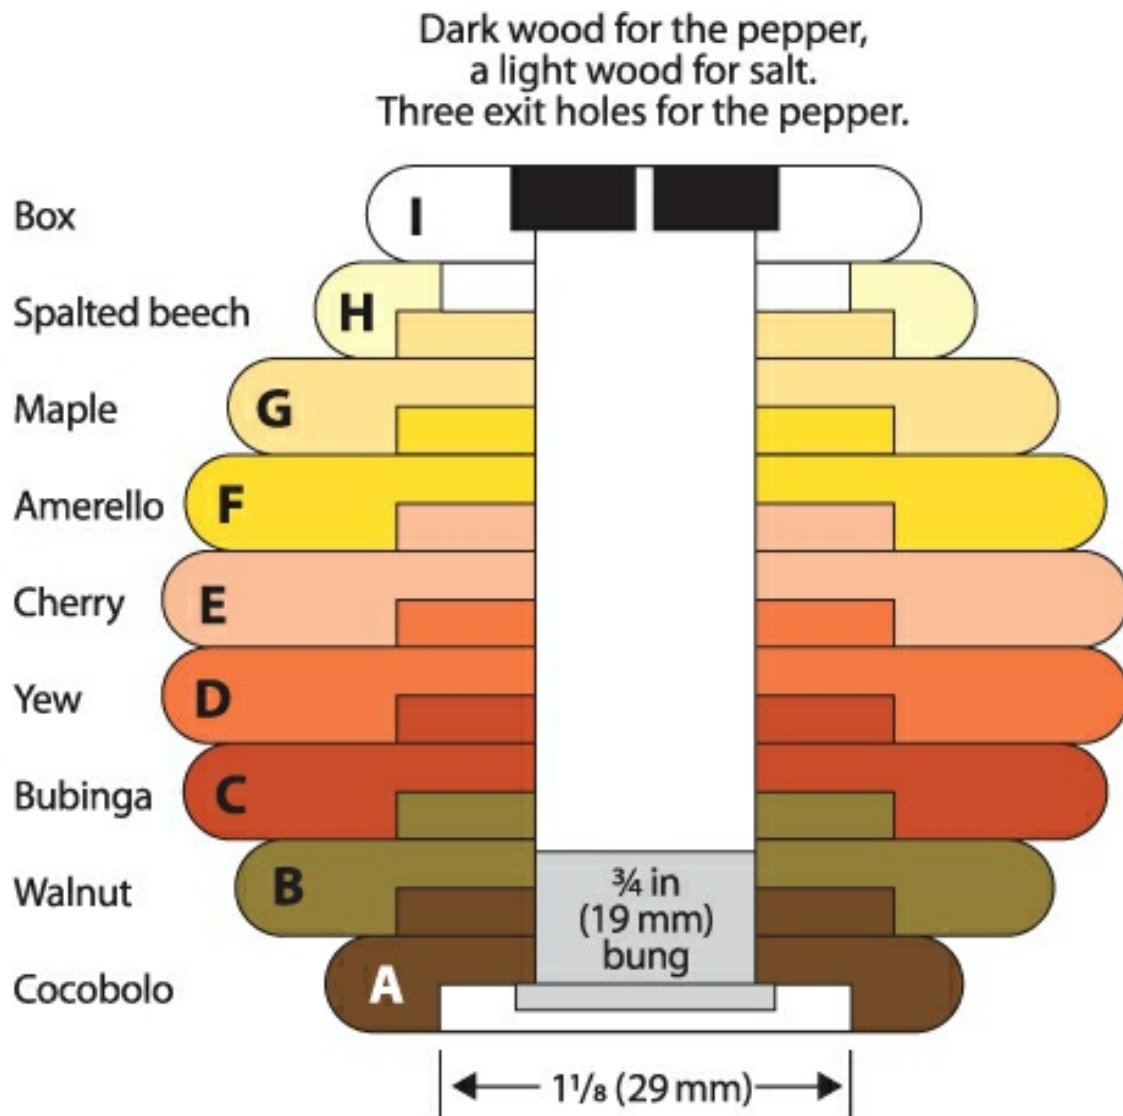

Fig 1
► *NOTE:* As you will notice in Fig 1, the colors of the wood go from dark A through to near white I.